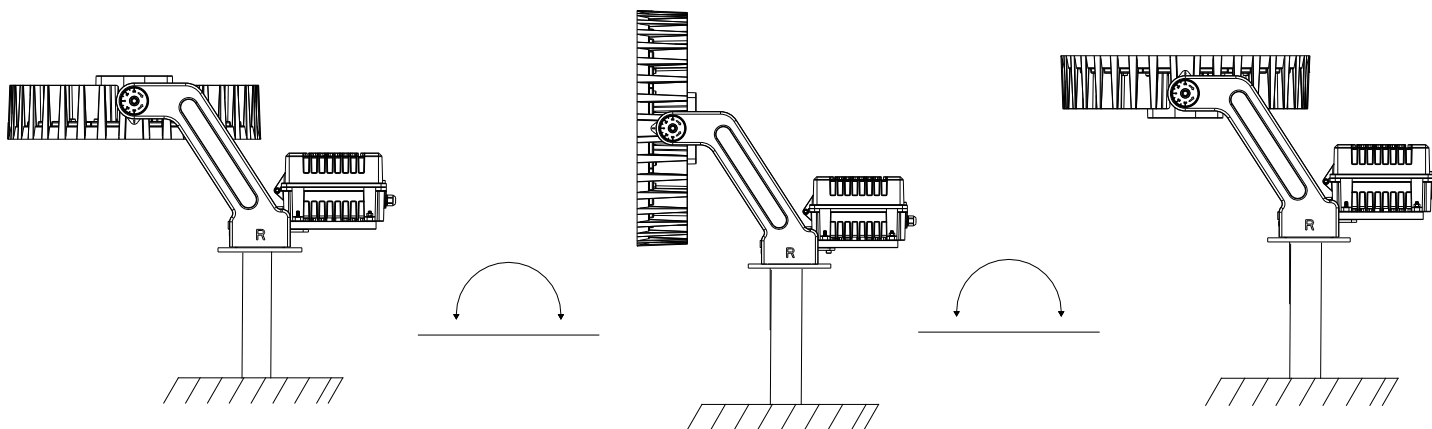

Figure 9
3. According to the need, carry out the projection angle adjustment (Fig. 9)